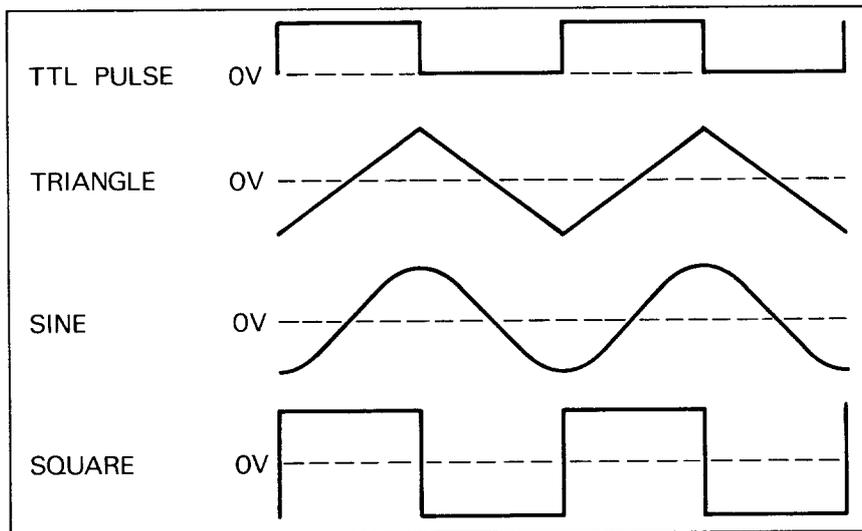

Fig. 3. Output waveform and phase relationships.
1. With the unit plugged into a power source, depress the POWER button (1).
2. Select the frequency range desired by depressing the appropriate RANGE switch. The frequency range obtained as the FREQUENCY dial (6) is varied will be from one-tenth the indicated RANGE value to 10 times this value. For example, select the 10 K range. When the FREQUENCY dial is at .1, the output frequency is 1 KHz; when at 1, it is 10 KHz and when at 10 the frequency is 100 KHz. The frequency obtained applies to the signal at the TTL jack as well as the 600 $\Omega$  OUTPUT jack.
3. Select the waveform desired by depressing the appropriate FUNCTION button. The phase relationships of the waveforms available are shown in Fig. 3.
4. The amplitude of the selected output signal at the 600 $\Omega$  OUTPUT jack is adjusted by AMPLITUDE control (4). The TTL output is not affected by the AMPLITUDE control.